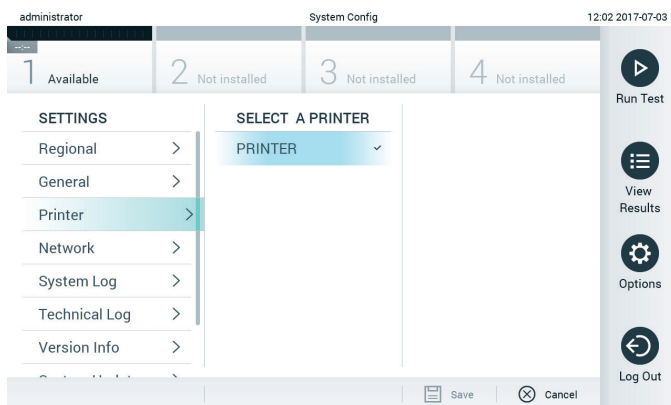

Figure 61. Selecting a system printer.
3. Select a printer from the list of available printers (Figure 61).